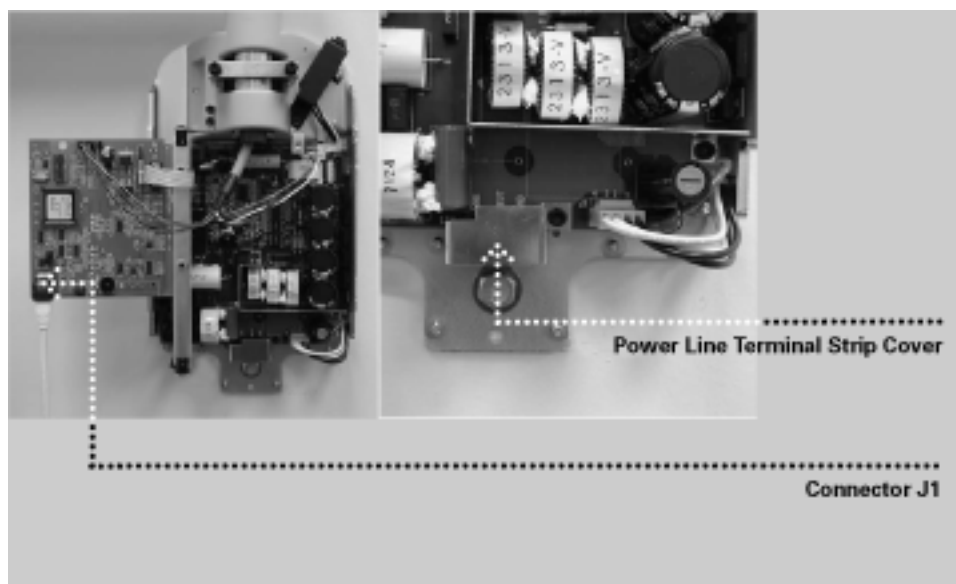

Figure 23
1. Using a 3 mm Allen wrench, remove the power line terminal strip cover at the base of the Power Supply Control Board to gain access to the power line terminal strip, as shown in Figure 23.
3. Plug the other end of the cable into connector J1 on the Power Supply Control Board 30-08043, as shown in Figure 23.